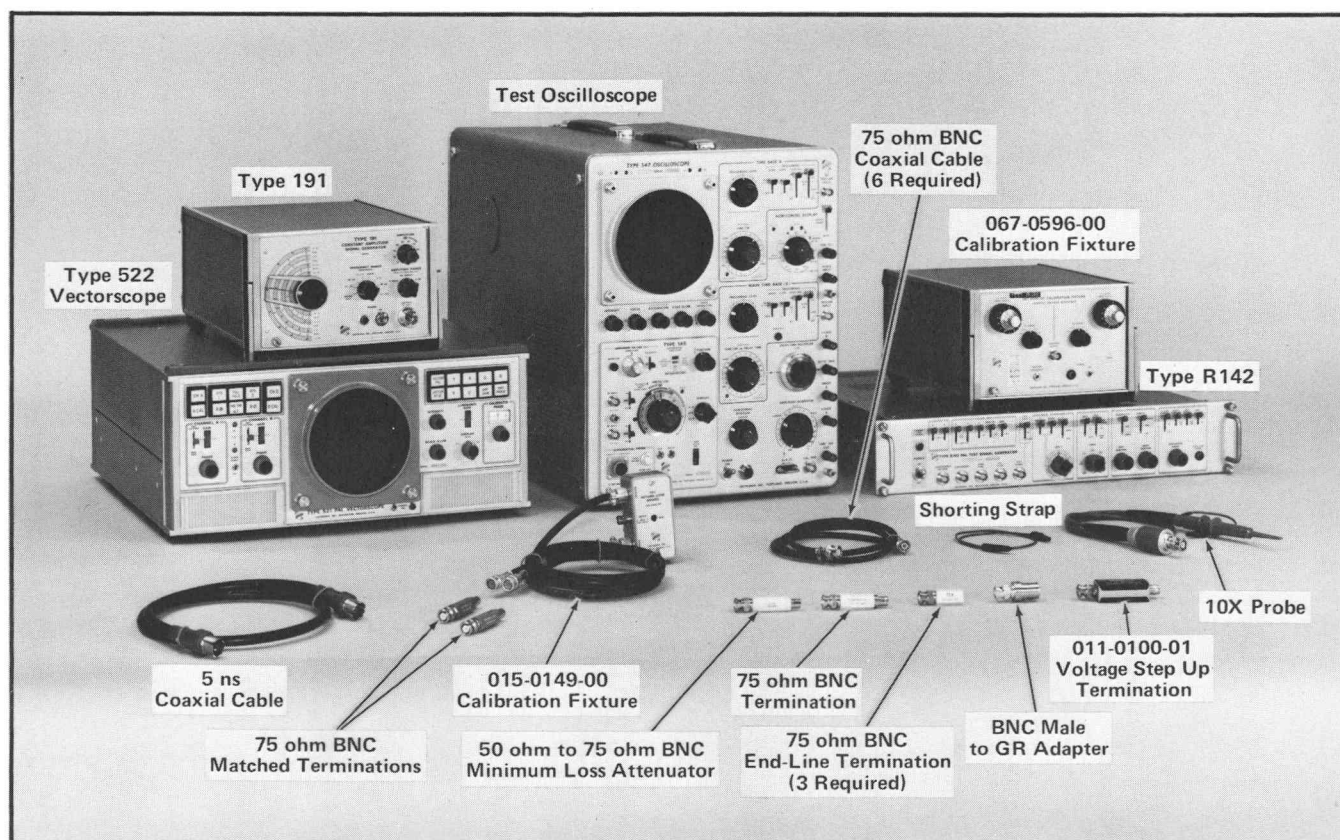

Fig. 5-43. Test equipment required for steps 41 through 48.
a. Test equipment is shown in Fig. 5-43.